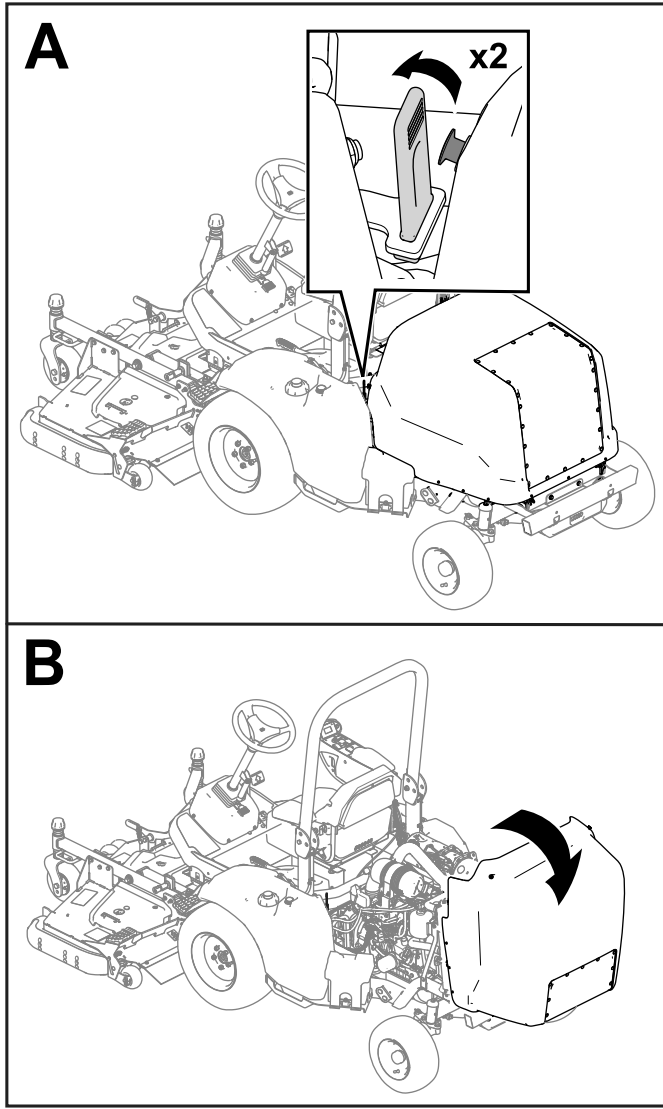

Figure 43
1. Release the straps from each side of the machine (Figure 43).
2. Raise the hood (Figure 43).